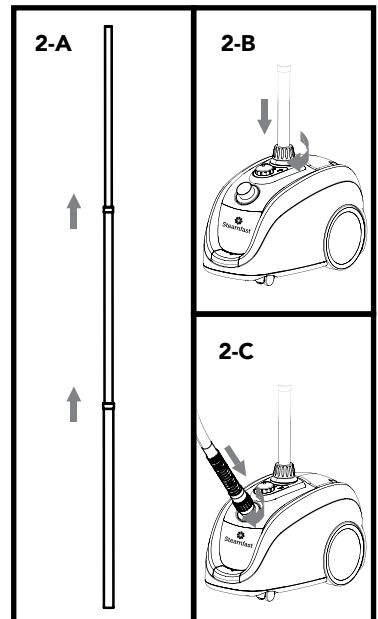

FIGURE 2
1. Fully extend the telescopic pole. To do so, loosen SECTIONS 1 & 2 by turning the pole counterclockwise, fully extend the pole and then tighten by turning clockwise (FIGURE 2-A). Make sure the pole is securely locked in place and cannot be pushed down.
2. Insert the bottom (widest section) of the Telescopic Pole through the Pole Base coupling (FIGURE 2-B). Then screw the coupling clockwise to lock the Telescopic Pole in place. The Telescopic Pole should now be secured to the Pole Base.
3. To attach the Steam Hose: Align the hose nut with the hose base on top of unit, then turn the hose nut clockwise to tighten (FIGURE 2-C).